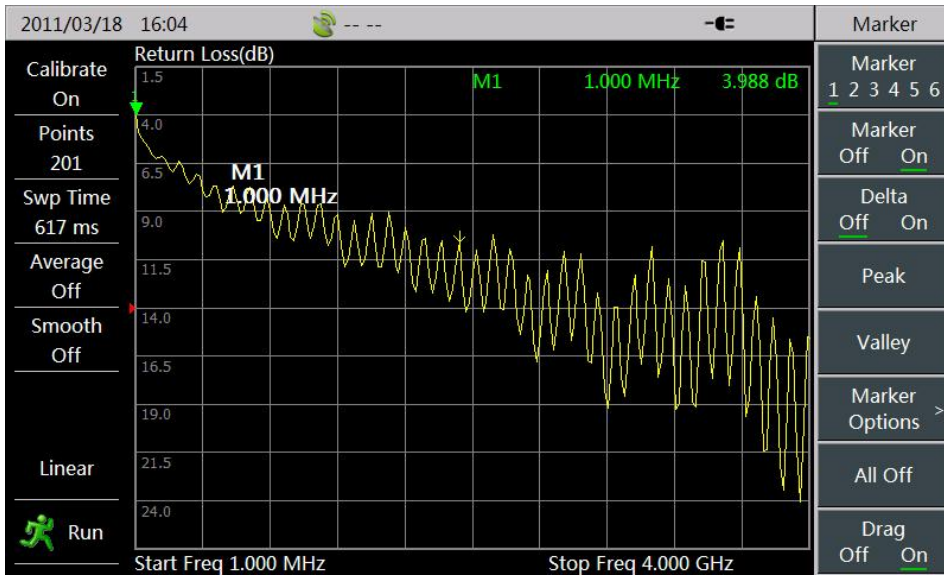

Figure 1-10 Markers in Use
- 3) After the return loss curve has been obtained through measurement, user can mark the measured peak (matching the worst case) by **【Marker】**. Generally, the match in the antenna feeder system, whose return loss is greater than 15dB or VSWR is less than 1.43, is regarded as the normal match. The maximum of return loss in this case is 20.84dB as shown in Figure 1-10, thus the return loss of cable therefore is qualified.